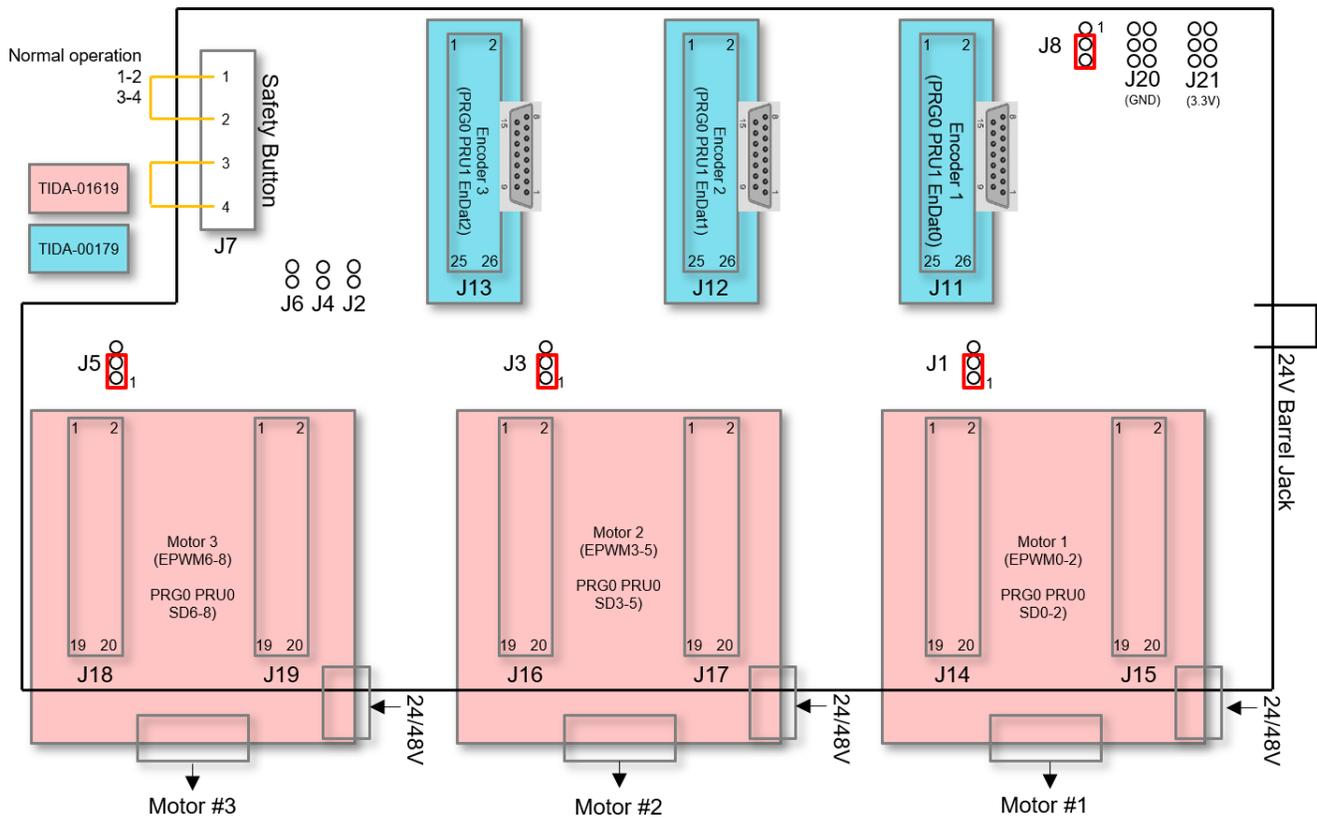

Figure 11-2. TIDEP-01015 Jumper Settings
- Configure the jumpers on the TIDEP-01015 board as shown by the red rectangles below and described in the table. Also note that the screw terminals connectors in J7 need to be shorted as shown in Figure 11-2 as described in the table (this connector enables an STO type function but is currently being bypassed).